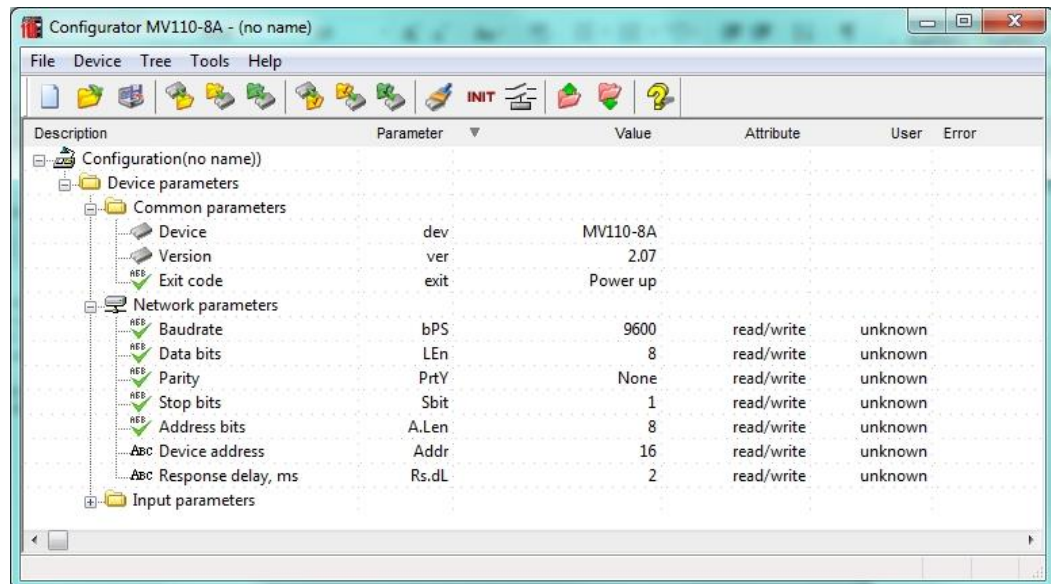

Fig. 7.2 Main window of M110 Configurator
- The main window of the Configurator opens. Saved user parameters of the module can be read now (see Fig. 7.2).